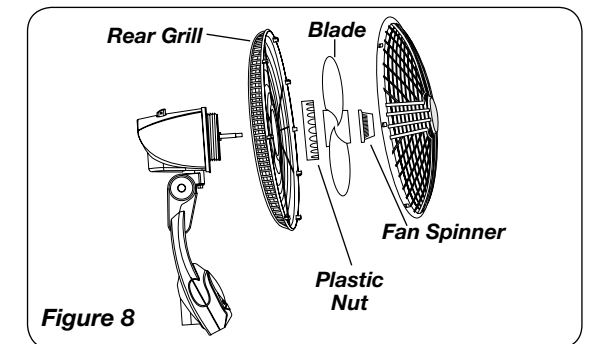

Figure 8
3. Fully seat **Rear Grill** and secure with **Plastic Nut** turning Clockwise. Slide **Blade** onto **Motor Shaft**. (Figure 8) Align **Groove** on blade hub with **Pin** on motor shaft. (Figure 8A)